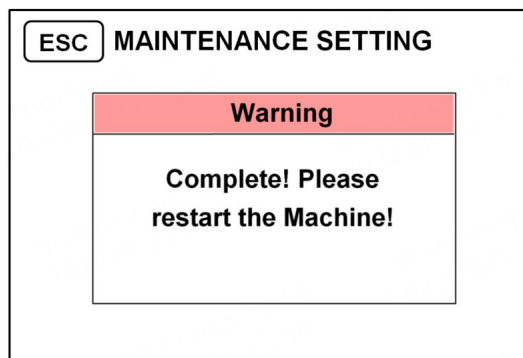

Figure 54
3) Touch the "OK" key to restore the factory settings, and restore all other settings except the initial time and date settings to the initial state. Restart the machine after restoring factory settings, as shown in Figure 54 below: